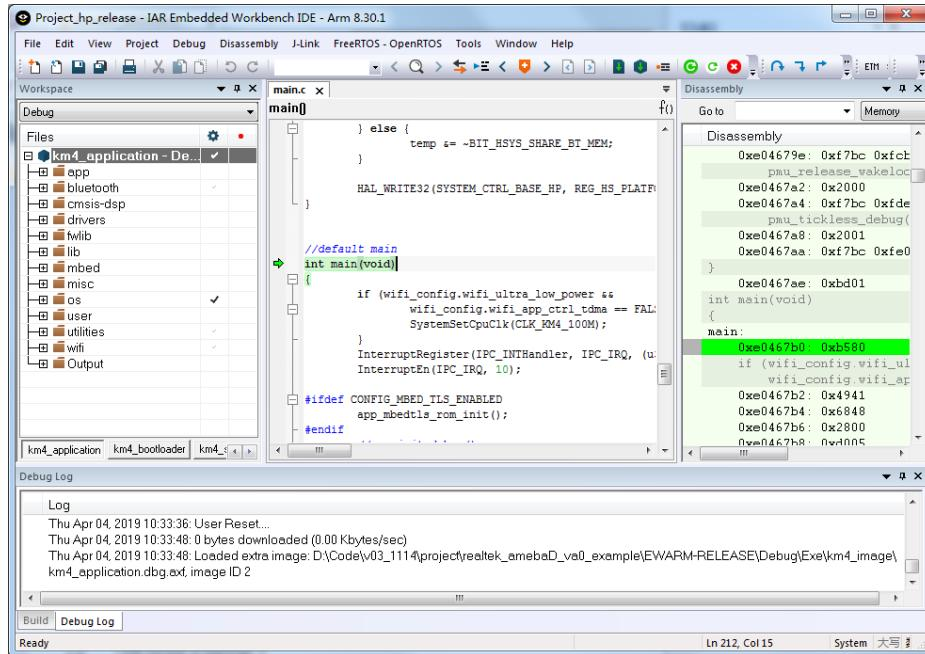

Fig6-20 Running to main() when debug
- (3) When starting IAR C-SPY to debug, it will firstly reset the target CPU and run to the main function. Fig6-20 shows